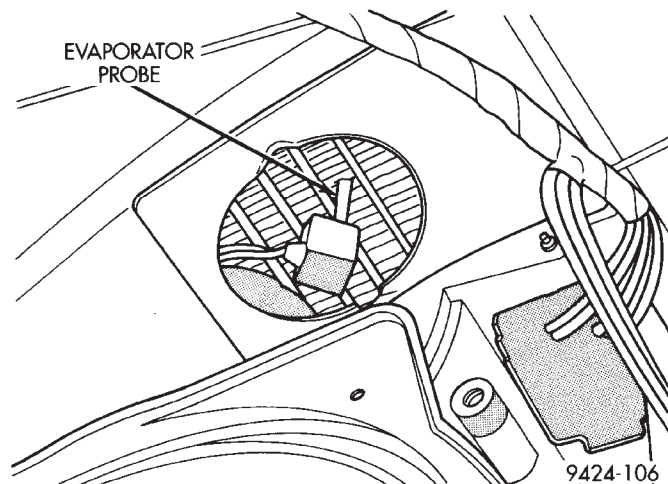

Fig. 89 Probe Needle Into Evaporator
(12) Install evaporator and vent door seals onto the A/C housing.
(13) Install evaporator probe assembly into the housing. Insert probe needle into evaporator (Fig. 89).